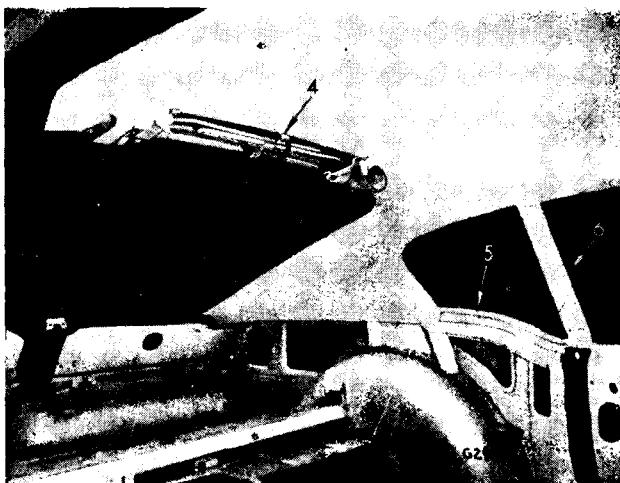

Fig. 38. Roof lining positioning
- Hook the centre and rear rails into the roof edges and position the centre of the lining about the interior lamp mounting bracket (4) (Fig. 38).
- Replace the pieces (5) and (6) if necessary.